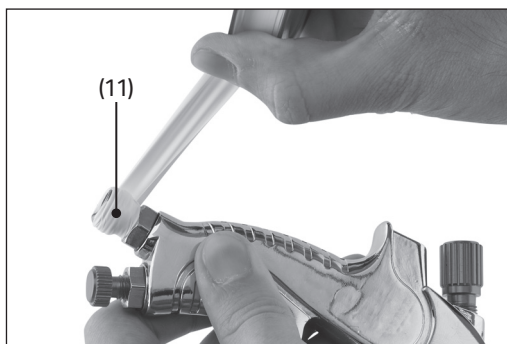

Fig. 8
3. Wrap a length of PTFE tape around the spray gun air line inlet (11) (Fig. 8).